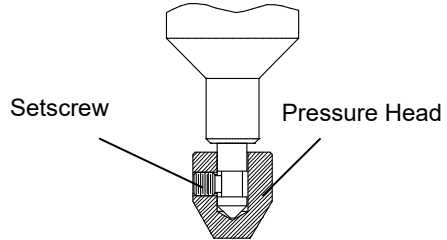

Figure 23 • Removing the Pressure Head
- Hold the pressure head and loosen the setscrew using a 0.050" ball driver enough to be able to slide the pressure head off the pressure applicator assembly (Figure 23).